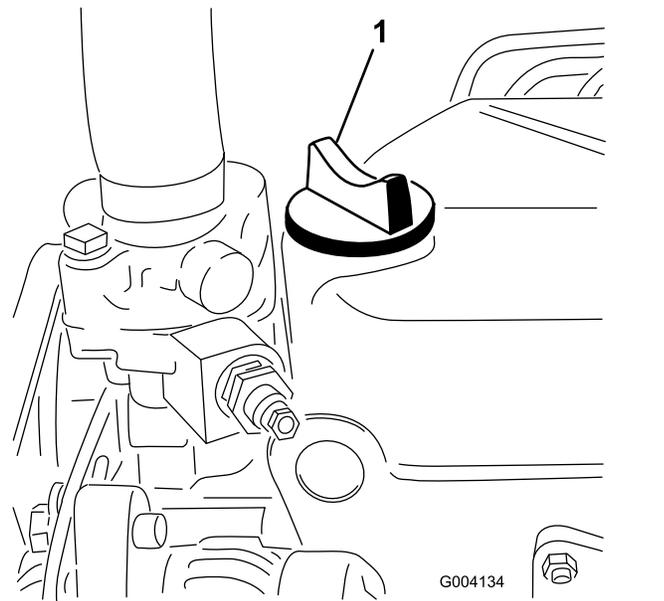

Figure 77
5. If the oil level is below the Full mark, remove the fill cap (Figure 77), and add oil until the level reaches the Full mark on dipstick.